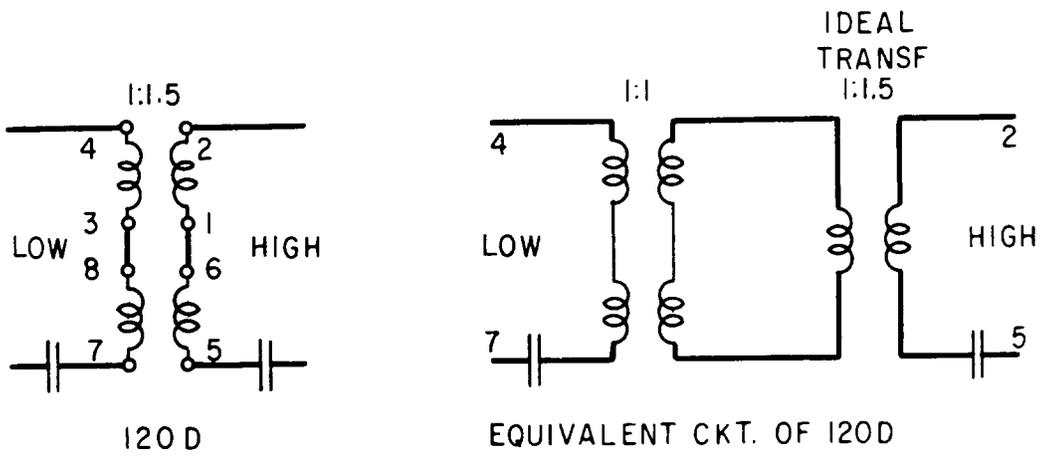

FIG. 1
1.02 The 120D repeating coil has an impedance ratio of 1 to 1.5, which is equivalent to a unity ratio coil plus an ideal 1:1.5 ratio transformer, as shown in Fig. 1. This makes it possible to obtain the input impedance of the 120D coil from charts similar to those for the 1:1 ratio coils. For a general discussion of the method of using the charts, refer to Section 304-200-100.
1.04 Figs. 1, 2, and 3 show, for computation purposes, the equivalent location of capacitors normally associated with the repeating coil, and for convenience a table of reactances of 1 mf and 4 mf at several frequencies is given below. The average value of Western Electric capacitors is usually 8 to 10% (and may be as much as 25%) higher than the nominal, with proportionately lower values of reactance.